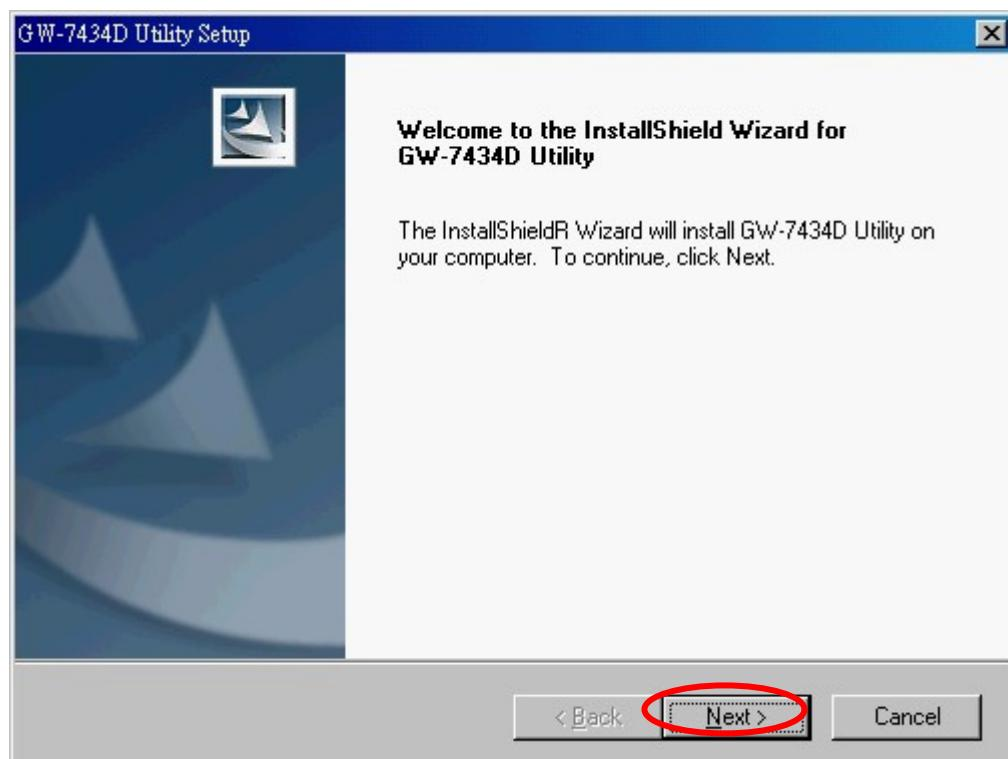

Figure 5-2: Welcome dialog
Step 3: A “Welcome” window pops up to prompt user to begin the installation. See figure 5-2.